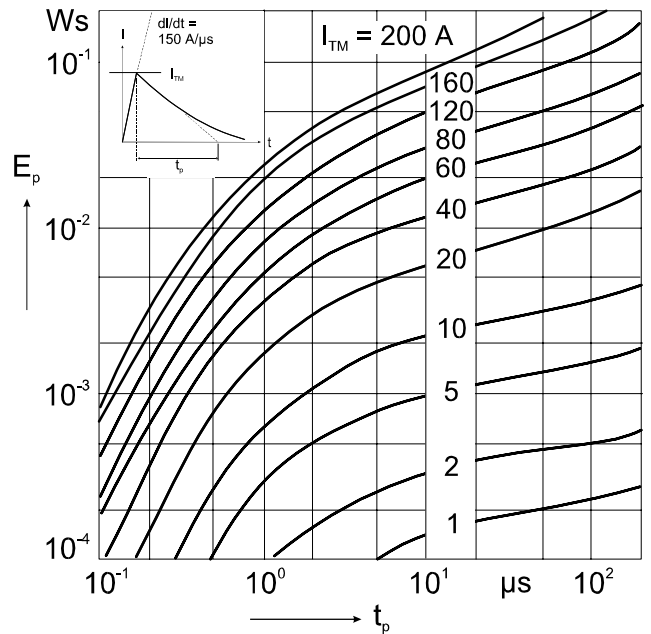

Fig. 6 Energy per pulse for single BOD element for exponentially decaying current pulse.  $E_p$  must be multiplied by number of elements for total energy.
a. The maximum junction temperature shall be calculated for a module IXBOD 1 -30R at an ambient temperature  $T_a = 60^{\circ}C$ , an exponentially decaying current  $I_{TM} = 40A$ , a pulsewidth  $t_p = 2 \mu s$ , an operating frequency  $f = 50 Hz$  and natural convection. From the diagram Fig. 6 the energy per pulse is obtained: